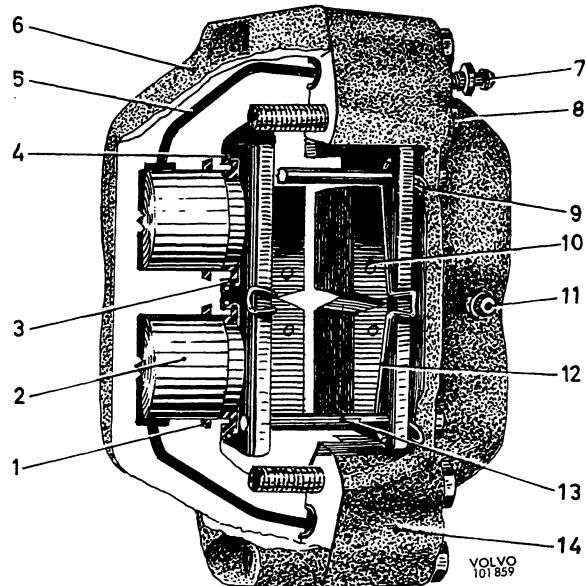

Fig. 5-8. Front wheel brake caliper
Mounted on the stub axle is the front wheel caliper (3) which houses the wheel unit cylinders and brake pads. The front wheel brake caliper consists of a housing in two halves (6 and 14, Fig. 5-8) bolted together and located on either side of the brake disc. Each half contains two cylinders and pistons. The upper cylinder is completely separated from the lower one, but both upper and lower cylinder are each connected through channels to the corresponding cylinder in the other half. The function of the sealing rings (1) is partly to prevent brake fluid from oozing out and partly to return the pistons to the rest position after braking. Rubber dust covers (3) prevent dirt from entering. Each sealing ring has a square section and presses against the piston from the slightly oblique groove in the housing. The brake pads (10) are provided with bonded facings and are held in position by means of retaining pins (13).